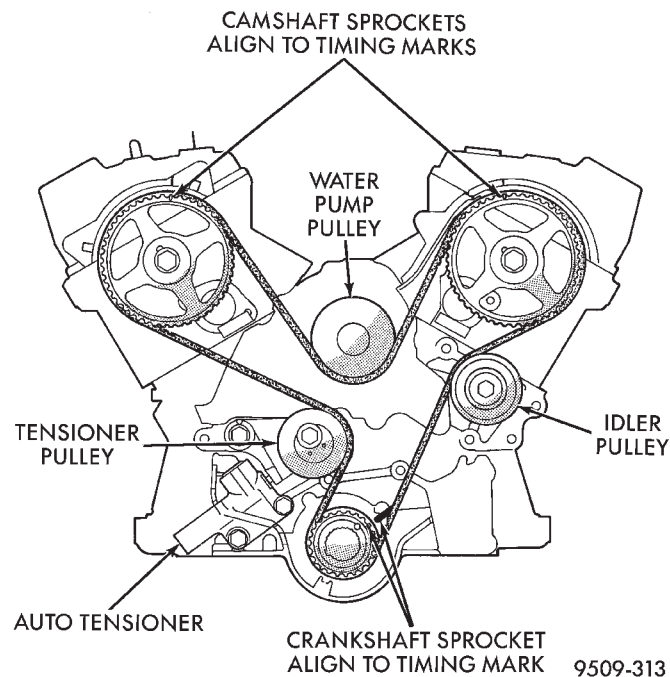

Fig. 53 Timing Belt Engine Sprocket Timing on the engine.
(2) Loosen timing belt auto tensioner bolts (Fig. 53) and remove timing belt.
- (8) Pull tensioner plunger pin.
- (9) Rotate crankshaft 2 revolutions in a clockwise direction ONLY and check the alignment of the timing marks (Fig. 53). Install tensioner pin into assembly. The pin should slide in and out without any resistance. If the pin does not slide freely, perform the procedure again.